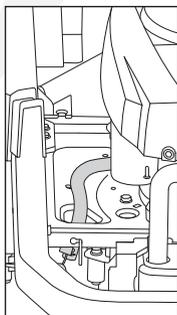

Fig. 30B
6. Rotate counterclockwise and pull the drain plug outward. (Fig.30B)